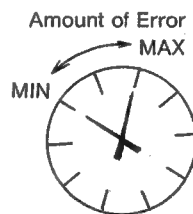

Fig. 7-7-8
- 1) Rotate the Center Drum that is not concentric with its axis of rotation, the meter will swing back and forth indicating the amount of error as shown in figure 7-7-8.